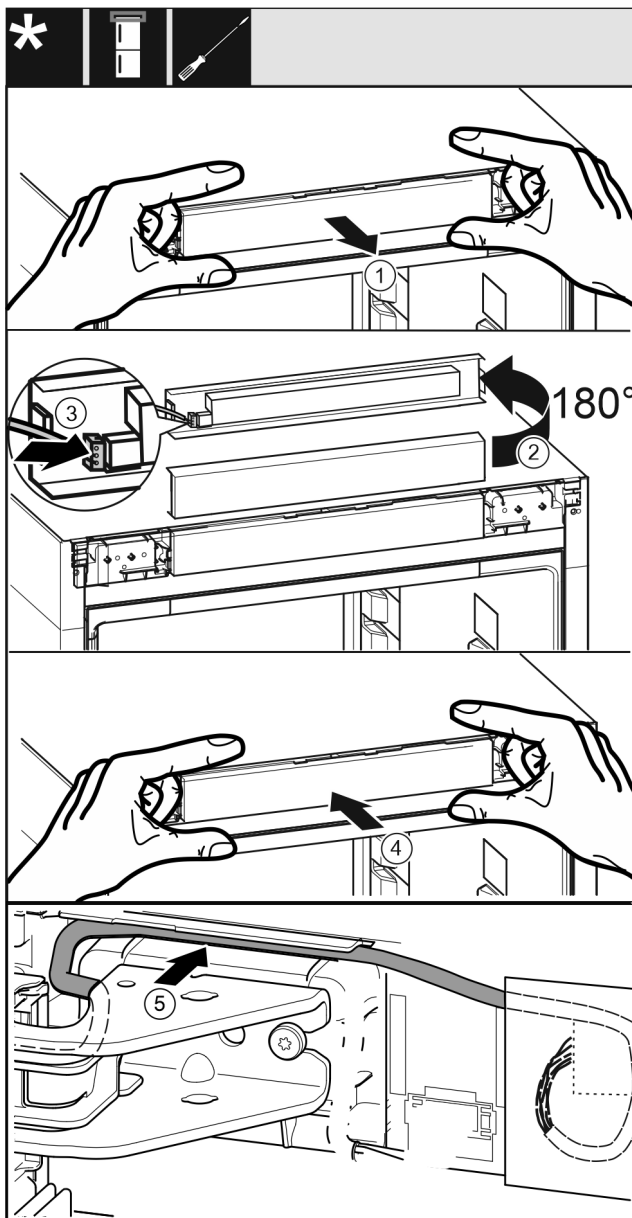

Fig. 31
- ▶ Take off the operating panel carefully. Fig. 31 (1)
- ▶ Turn the panel upwards through 180°. Fig. 31 (2)
- ▶ Engage the plug in the control panel. Fig. 31 (3)
- ▶ Latch the control panel back into the appliance. Fig. 31 (4)
- ▶ Carefully position the grey cable in the guide above the top bearing bracket. Fig. 31 (5)